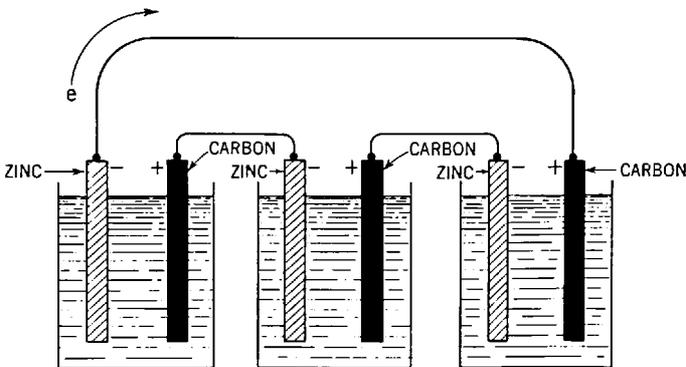

Fig. 30-16. *Three voltaic cells in series. Note that in series connections the + pole of one cell is always joined to the - pole of the next cell.*
**Batteries of Cells.** If two or more such cells are connected together, we call them a *battery*. If several similar cells are connected in *series*—that is, with the zinc of one connected to the carbon of another (Fig. 30-16), the electromotive force of each one is added to the others, and the total electromotive force is the sum of all of them. Thus, the total electromotive force which will cause electrons to flow through the wire in the diagram shown in Figure 30-16 is 1.5 volts  $\times$  3 = 4.5 volts.